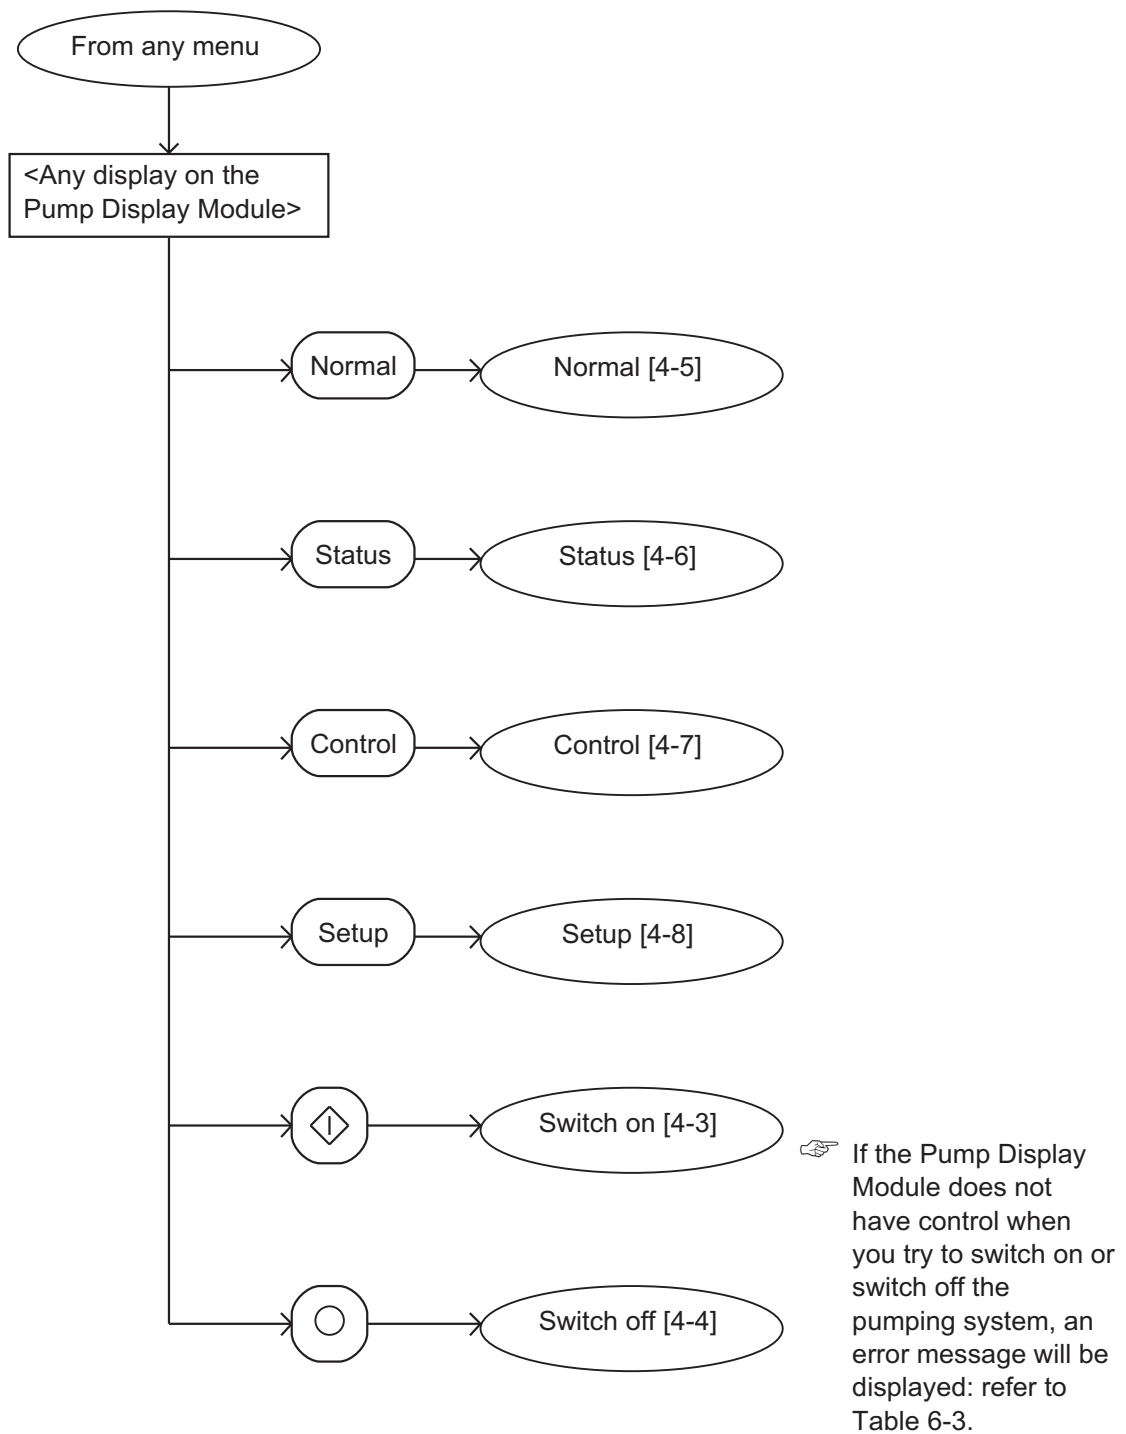

Figure 4-2 - Menu logic
The menus used and the display messages shown on the Pump Display Module are described in the menu diagrams in Figures 4-2 to 4-19. The following symbols and conventions are used in the menu diagrams:
When you first switch on the iL system, the normal display is shown: see Figure 4-5. Refer to Figure 4-1. You can then press the On or Off button (1 or 10) or any of the four menu buttons (7) to enter the corresponding menu. Then, regardless of the current menu and display status, when you press any of these buttons, you exit the current menu and enter the corresponding new menu. Figure 4-2 shows this menu control logic.
In the menu diagrams in Figures 4-2 to 4-19, text shown without chevron brackets in the two-line display symbol is the actual text that will be shown on the display. In this text, the ' ' symbol is used to show where a digit will be shown; the value of the digit depends on the sensor data or information you enter into the Pump Display Module.